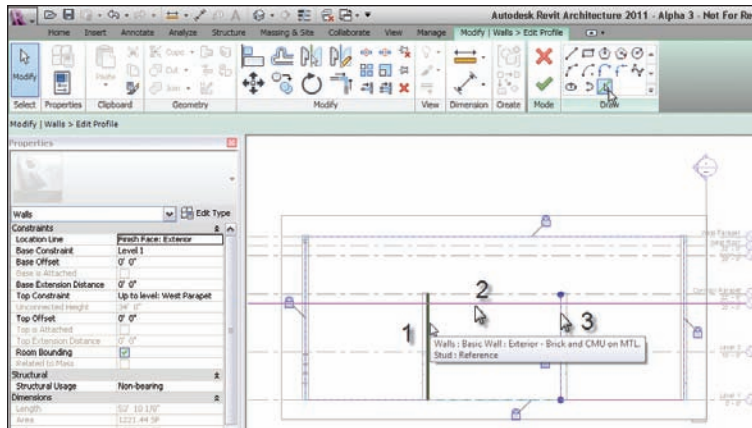

FIGURE 4.39 Tracing the walls to form a notch. This is done by selecting the Pick Lines icon and picking the walls.
1. On the Draw panel of the Modify | Walls > Edit Profile tab, click the Pick Lines icon, as shown in Figure 4.39.
2. Pick the inside face of the left wall (#1 in Figure 4.39).
3. Pick the Level 3 Level (#2 in Figure 4.39).
4. Pick the inside face of the right wall (#3 in Figure 4.39).